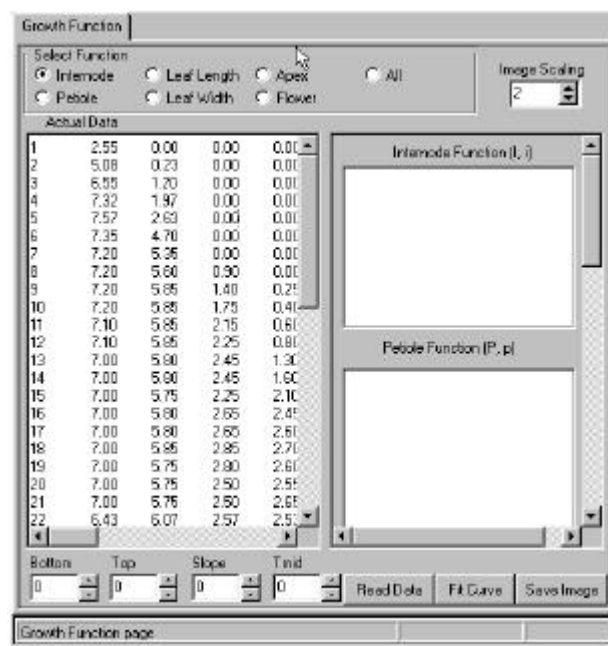

Figure C-7: Internode data.
- The data file of internode are shown in Figure C-7.